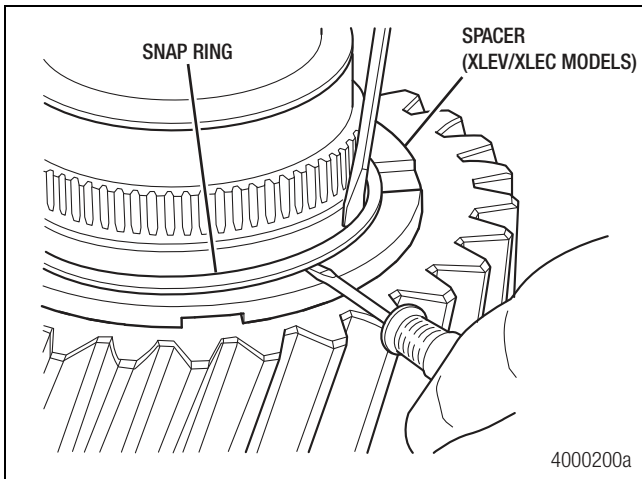
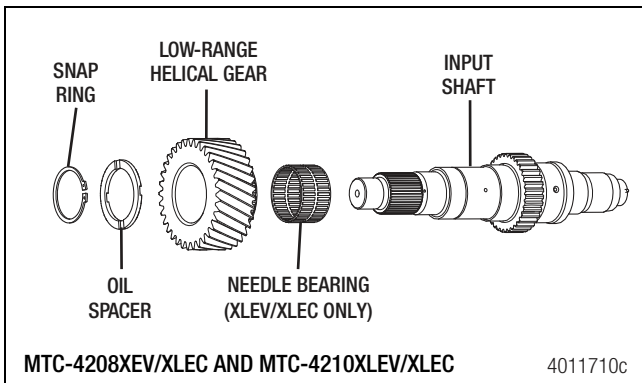

Figure 5.30
Figure 5.31
5. Remove the snap ring retaining the small helical gear on the input shaft. For MTC-4208XLEV/XLEC and MTC-4210XLEV/XLEC remove the spacer from the input shaft. Lift the small helical gear off the shaft. For MTC-4208XLEV/XLEC and MTC-4210XLEV/XLEC, remove the needle bearing from the input shaft. Figure 5.30 and Figure 5.31.